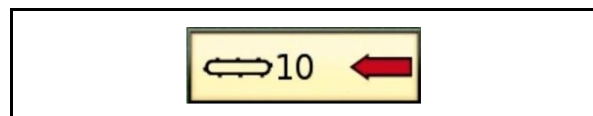

Fig. 146
2. Keep the key button (1) pressed to the top (2) or to the bottom (3) until the terminal displays the desired speed level next to the symbol "Crossover conveyor" (Fig. 146).